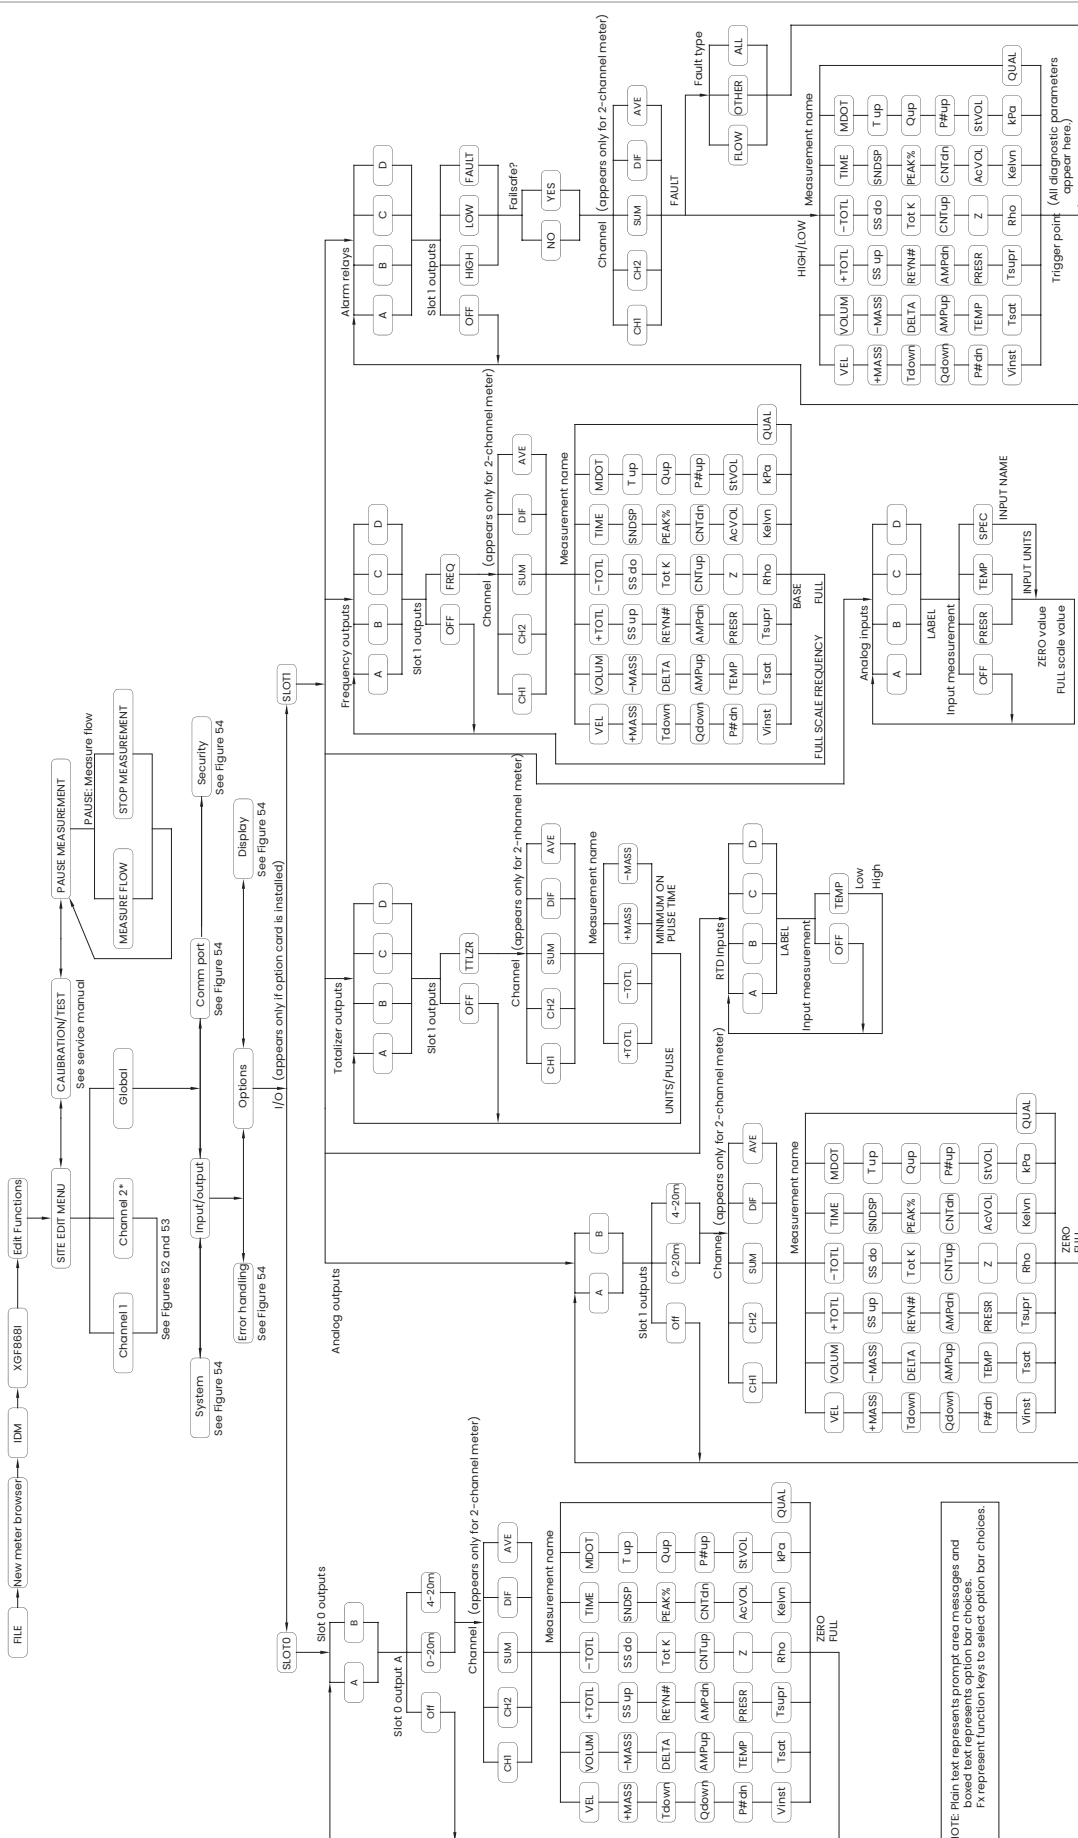

Figure 58: PanaView PROG > GLOBL > I/O > OPTIONS menu
- *Figure 58 on page 83, "PanaView prog > GLOBL > I/O > OPTIONS menu*